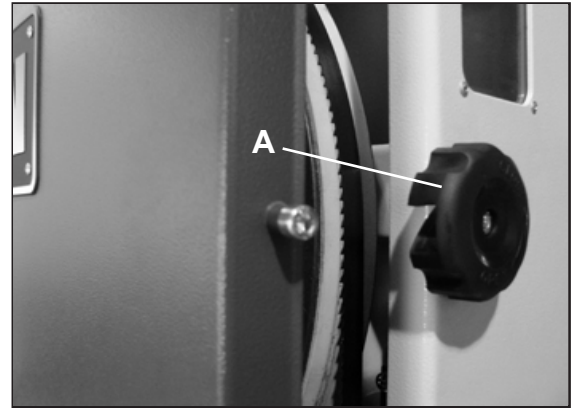

Figure 21
- a) Open the top and bottom wheel doors by turning the door locking knobs. (A-Fig.21)
- f) Re-tension the new blade by moving the quick release lever (A-Fig.21) left to right and check the blade tracking. Spin the upper wheel clockwise three times. The blade should run in the center of both wheels. Refer to “Tracking the Saw Blade” on page 12 for more details.
- j) Close and lock both the wheel doors (A-Fig.21) before reconnecting the power supply.